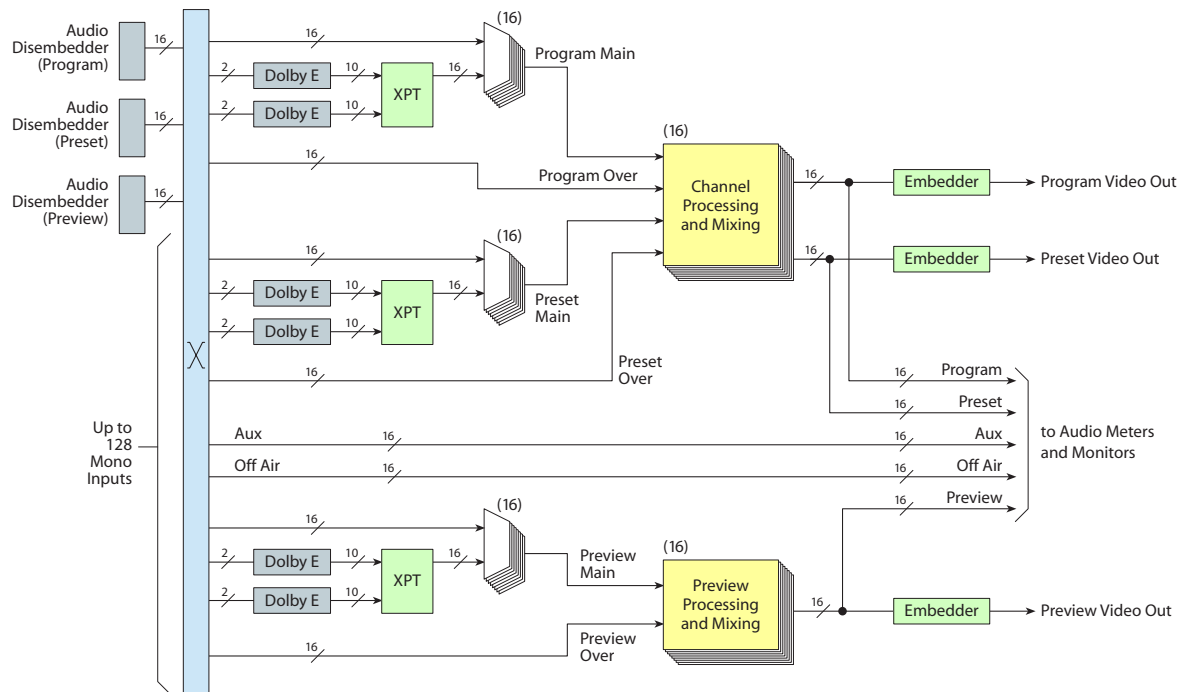

Fig. 5-3: Audio Processing Section (Program, Preset, and Preview Main Sources)
- Dual Dolby decoders supporting main sources on the preview bus. (Refer to Figure 5-3.)
Figure 5-3 shows the schema for MCEs with dual Dolby decoders supporting program, preset, and preview main sources: